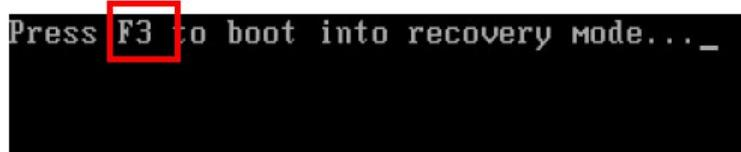

Figure B-10: Press F3 to Boot into Recovery Mode
Step 1: Turn on the system. When the following screen displays (Figure B-10), press the <F3> key to access the recovery tool. The message will display for 10 seconds, please press F3 before the system boots into the operating system.